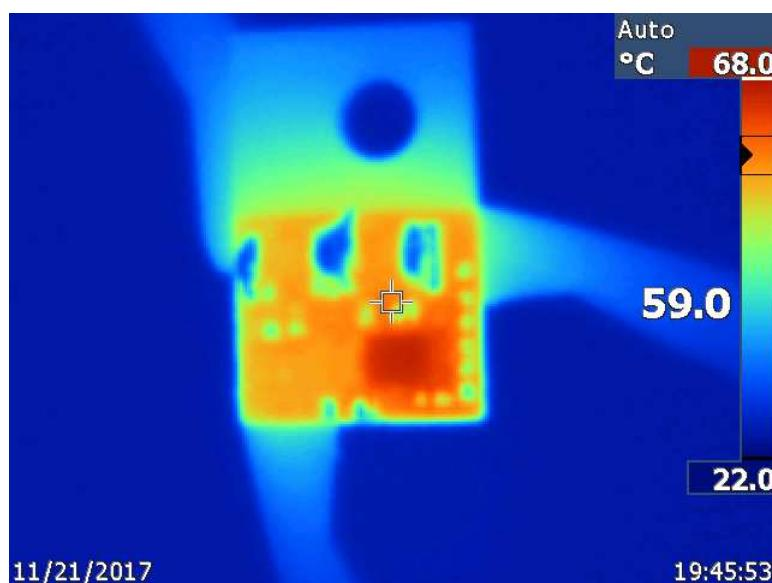

图 16. Thermal Image at 24 V_{IN} , 5 V_{OUT} , $300\text{ mA I}_{\text{OUT}}$
The infrared (IR) thermal image in 图 16 was taken at the steady state with 24 V_{IN} and the LMR36006 output at a load of 300 mA (no airflow). The ambient temperature is approximately 22°C . The maximum IC temperature is 68°C .